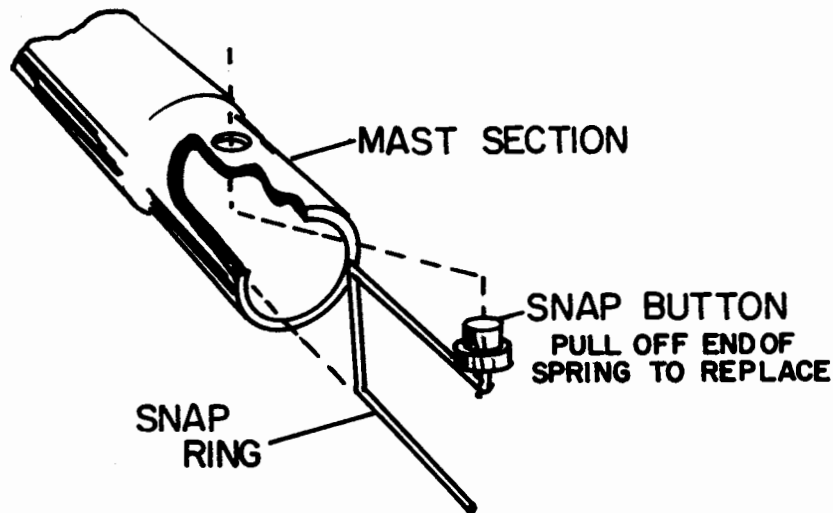

Figure 3-2 Repair of Antenna Snap Button or Antenna Snap Ring
(3) Remove the antenna snap button from the antenna snap ring and replace defective part.
(4) Push the antenna snap ring and antenna snap button into tube. Align the hole with antenna snap button and allow the antenna snap button to reseat back in the hole. Refer to Figure 3-2.